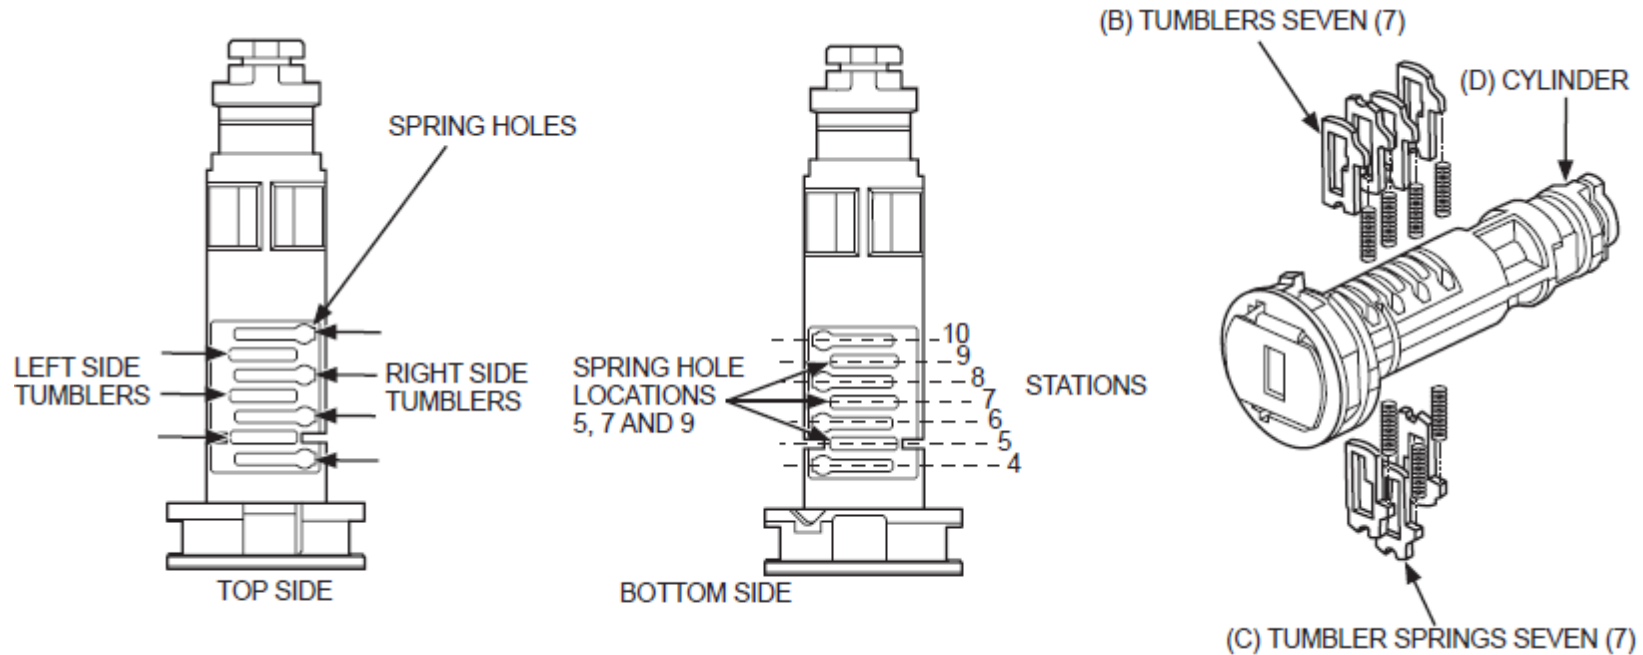

FIGURE 3
4. Insert one Tumbler-Spring (C) into each of the holes located at the end of the tumblers wards on the lock Cylinder (D) top side, (refer to Figure 3).
6. While holding down the Tumblers, turn the Cylinder (D) and repeat steps 3 and 4 for the bottom side, (refer to Figure 3)
7. Insert the key into the keyhole and verify that all installed tumblers are flush with the Cylinder (D) exterior surface. Do not pull out the Key. If you do, the tumblers will fall out.